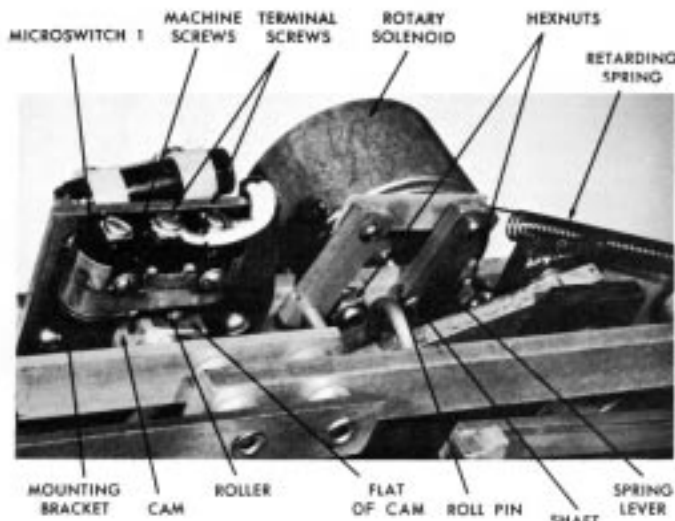

Figure 28
Refer to figure 28 and proceed as follows:
3. Attach new microswitch to mounting bracket. Adjust microswitch so that roller lever stop just touches base of switch when roller rides on cam. When roller is off cam, it should just clear flat of cam as shown in figure 28. Tighten machine screws.